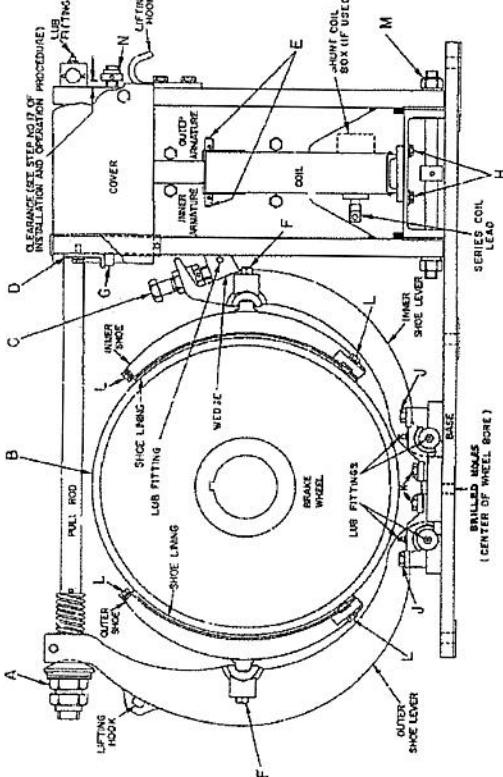

FIGURE 2
- (b) Refer to Figure 2. Remove the torque adjuster lock strap "D".
- (b) Remove the torque adjustor lock plate item 9.
- 2—Refer to Figure 2, sheet 2. Turn the two torque adjustor screws "G" clockwise until the torque springs are loose.
- (b) Replace the adjustor lock plate item 9.
(Refer to Figure 2 Sheet 2)
- (c) Refer to figure 2, sheet 2. Turn the two torque adjustor screws "G" clockwise until the torque springs are loose.
- 8—Replace the torque adjustor lock plate item 9 and the cover item 12.